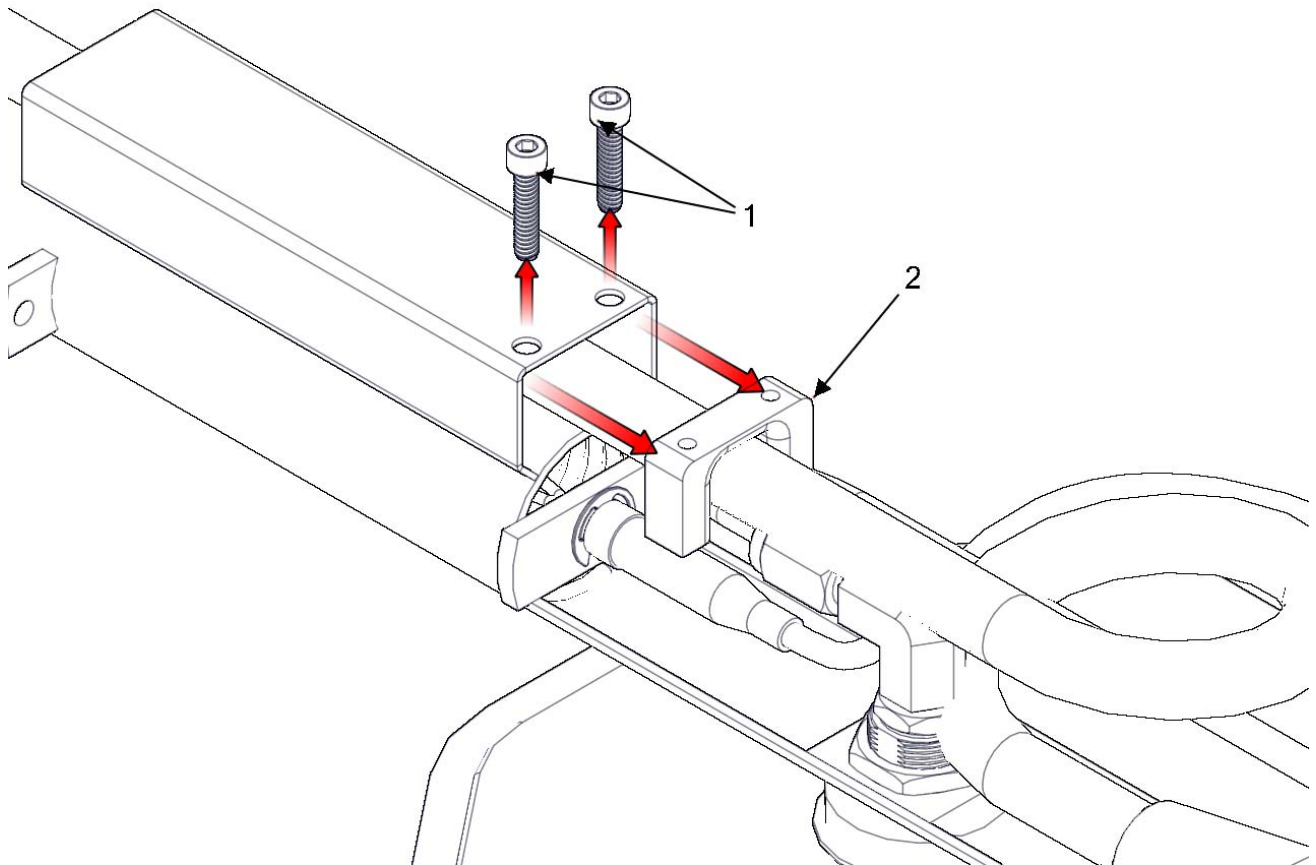

Figure 2-34 Power switch cable guide.
1. Remove the two 6-32 x 5/8" screws (Figure 2-34, Item 1) that connect the power switch cable guide (Figure 2-34, Item 2) to the glider aft end cap assembly.
2. Remove the power switch cable guide (Figure 2-34, Item 2).
1. Place the power switch cable guide (Figure 2-34, Item 2) in position on the glider aft end cap assembly.
2. Install the two 6-32 x 5/8" screws (Figure 2-34, Item 1) that connect the power switch cable guide (Figure 2-34, Item 2) to the glider aft end cap assembly.